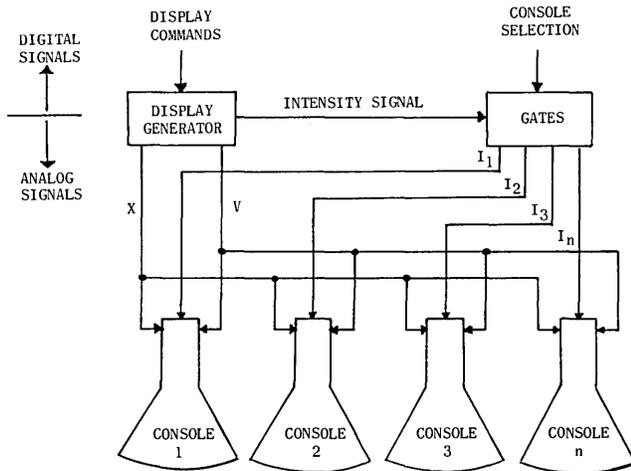

Figure 3. Method for time sharing a central display generator.
in Format (1) and an independent display on each console results. This method of time-sharing is illustrated in Figure 3.